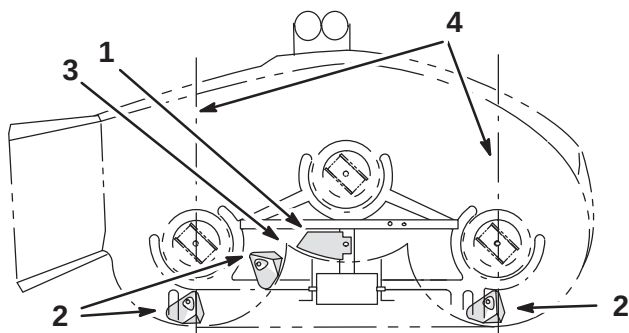
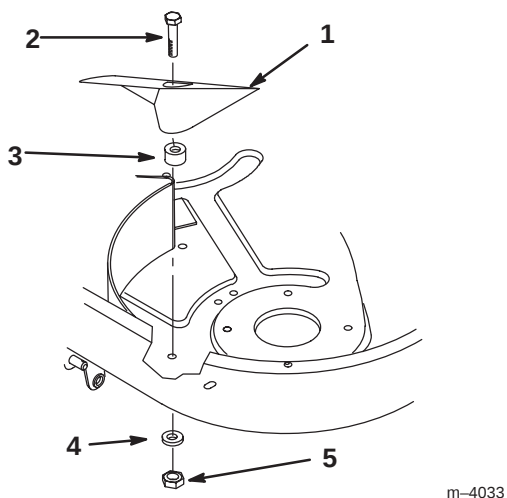

Figure 16
Figure 17
1. Place the kicker plate into position (Fig. 16).
3. Position kickers (Fig. 16) and secure them with 3 bolts (5/16 x 1 inch), spacers, flat washers, and locknuts (Fig. 17).